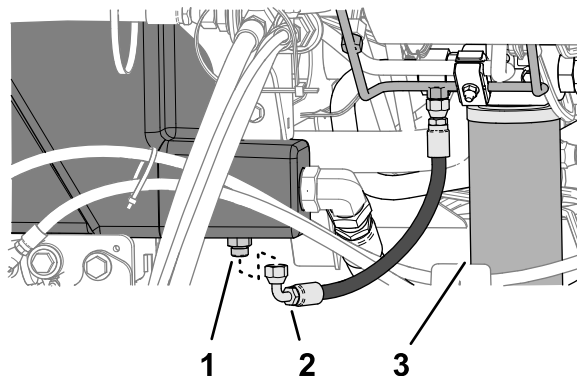

Figure 143
2. Place a large drain pan under the straight fitting (Figure 143) of the hydraulic tank; refer to Checking the Hydraulic-Fluid Level \(page 75\).